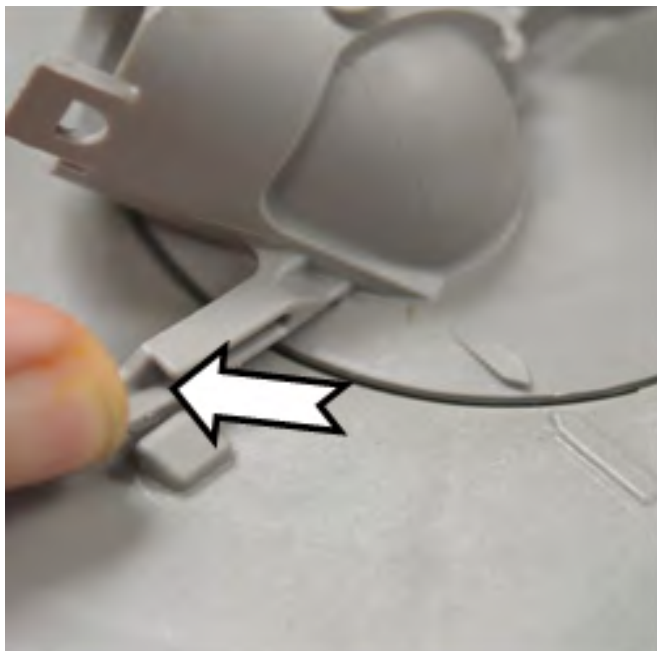

Figure 4
3. Release the lock on the diverter housing, see figure 4.